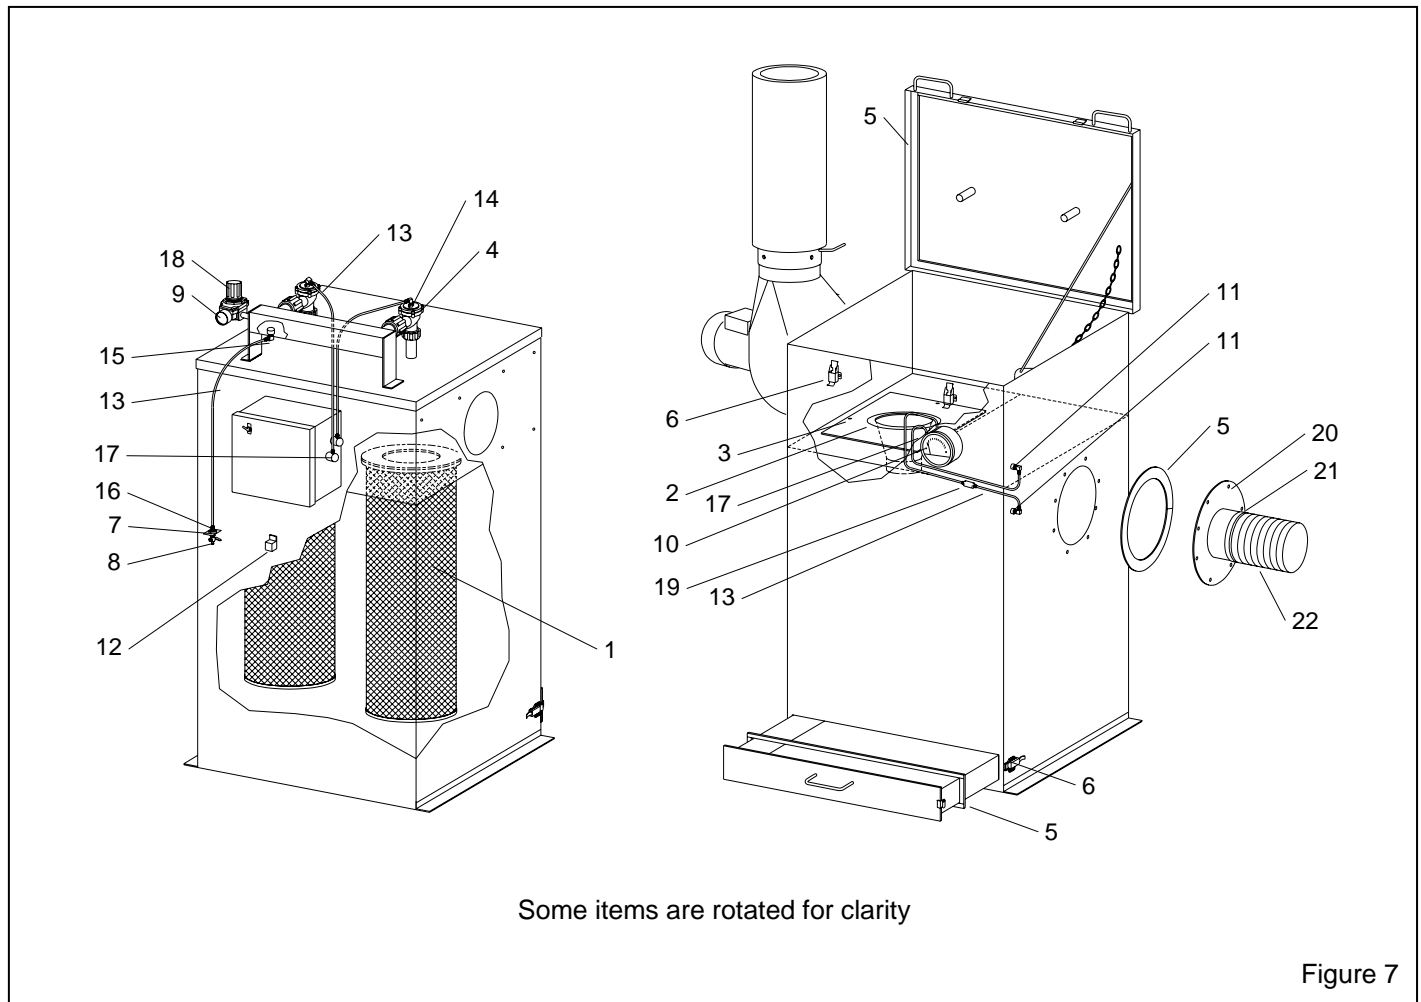

Figure 7
8.4 Collector assembly, Figure 7